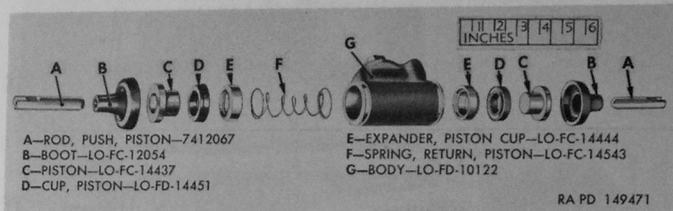

Figure 171. Wheel cylinder components.
*Note.* Key letters noted in parentheses are in figure 171.
*a.* Pull piston rod (A) out of boot (B) at each end of cylinder body (G). Pull bead on large end of each boot (B) out of groove in ends of body (G) to remove boots.
*b.* Push pistons (C), piston cups (D), piston cup expanders (E), and piston return spring (F) out of body (G).
*Note.* Key letters noted in parentheses are in figure 171. Refer to figure 172 for sectional view of wheel cylinder showing assembled position of parts.
*a.* Dip all parts in hydraulic brake fluid before assembling. Install piston cup (D) and piston cup expander (E) on each piston (C). Insert one piston assembly into body (G) so that the expander is facing